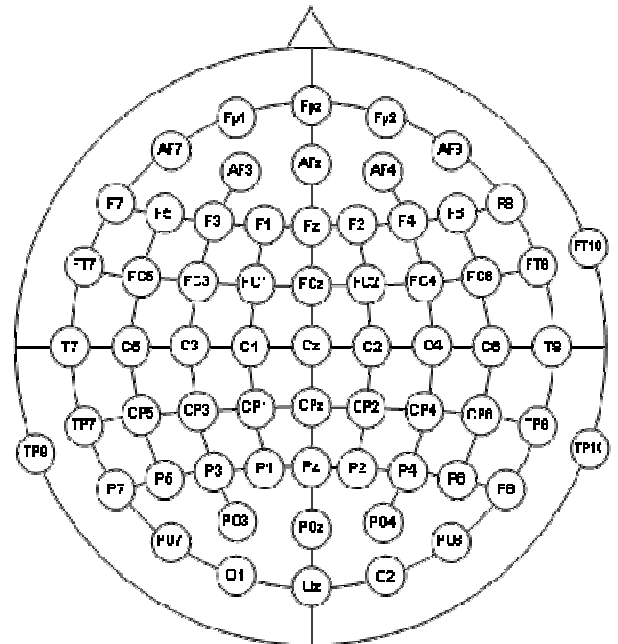

Figure 2: Mounting
- configuration with higher density -CFG2-, corresponding to the Easycap M11 montage, with 63 sites (Figure 2), plus a maximum of three sites for the electro-oculogram.